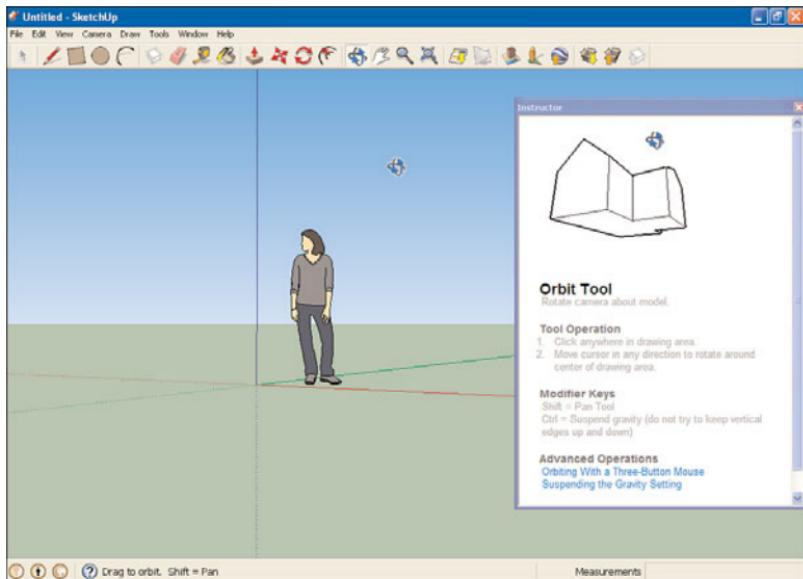

FIGURE 2.10 Using the Orbit tool.
4. Move the Orbit tool around SketchUp's workspace. As you do, the angle from which you view the current contents of the window changes, as you can see in Figure 2.10. The Orbit tool enables you to view your models in 3D just by moving the tool around the screen.